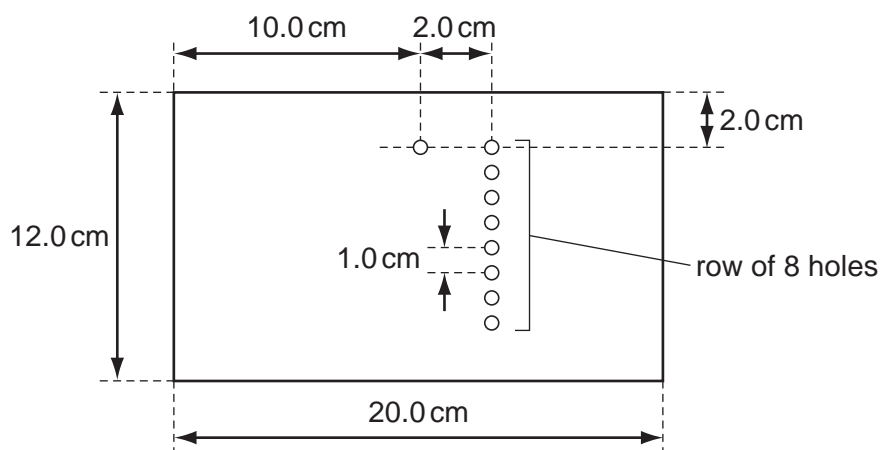

Fig. 1.1
- 1 The board should be drilled with nine 2.5 mm diameter holes as shown in Fig. 1.1.